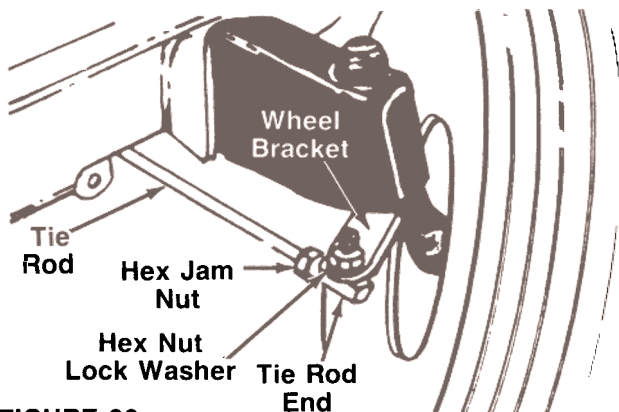

FIGURE 20.
1. Remove the hex nut and lock washer, and drop the end of the tie rod from the axle bracket. See figure 20.